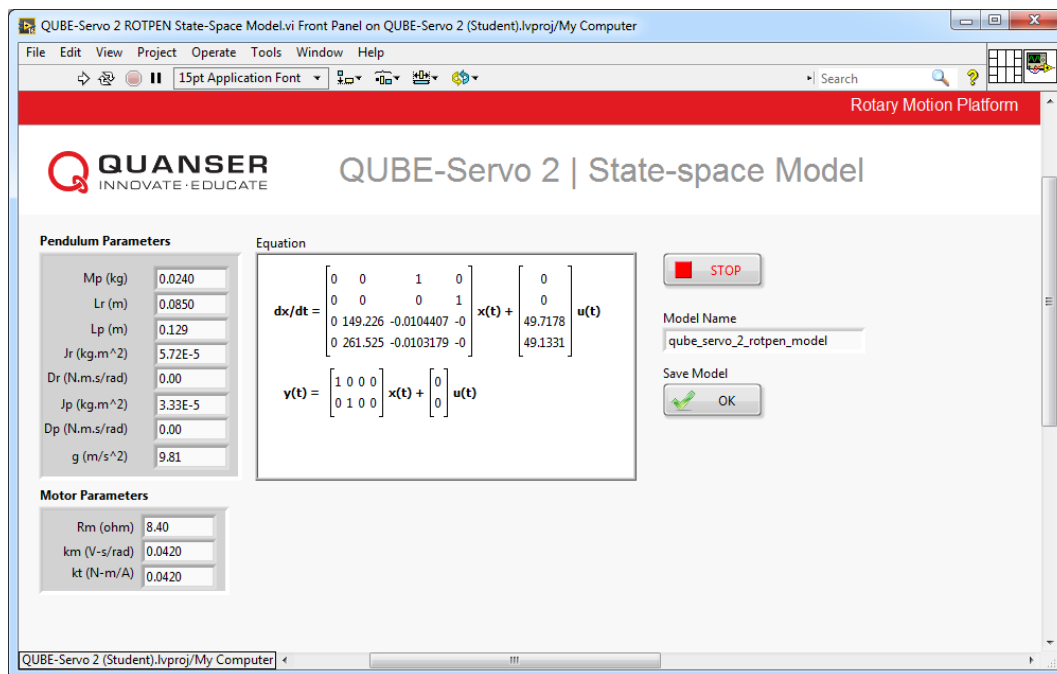

Figure 2.1: VI to generate QUBE-Servo 2 ROTPEN State-Space Model
1. In the *QUBE-Servo 2* project file, expand the *Windows* target as well as the *LQR Design* virtual folder. Run the *QUBE-Servo 2 ROTPEN State-Space Model.vi* shown in Figure 2.1. This loads the *QUBE-Servo 2* rotary pendulum state-space model matrices  $A, B, C$ , and  $D$  and saves it to the file *qube\_servo\_2\_rotpen\_model* in a folder called *Rotary Pen Model*.